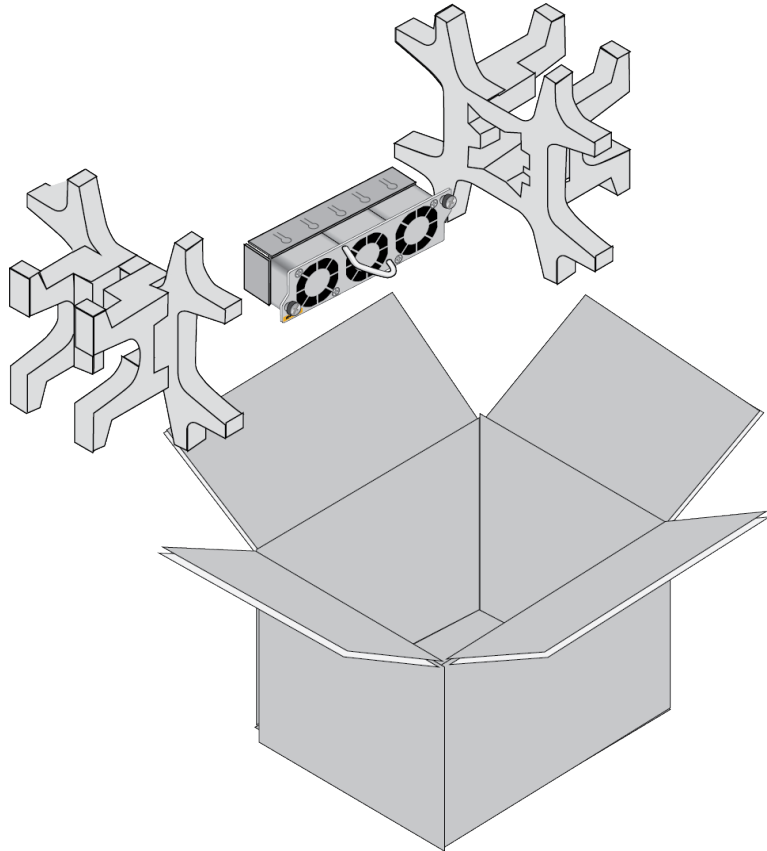

Figure 154. Removing the Fan Module from the Shipping Container
1. Remove the new fan module from its shipping box. Refer to Figure 154.